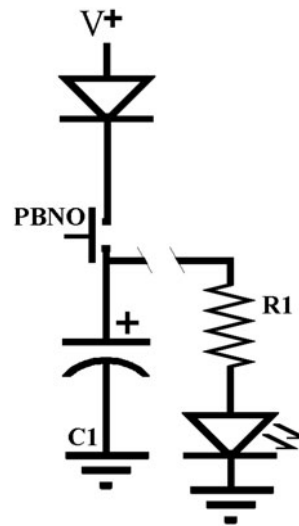

Figure L8-23
3. Disconnect the wire indicated in Figure L8-23 between the capacitor and R1.